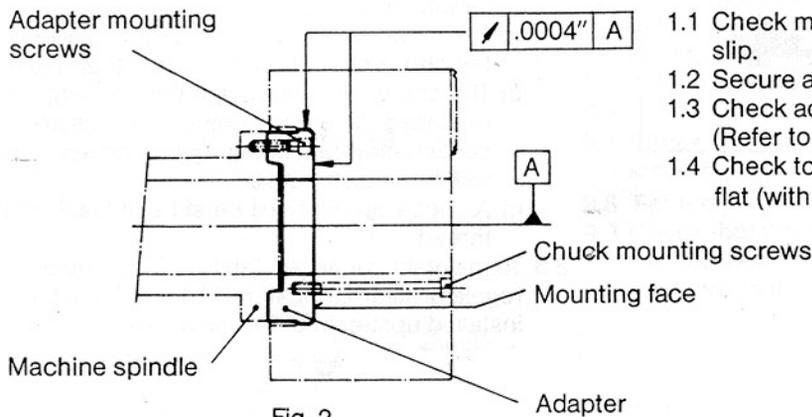

Fig. 2
**1. Mounting the chuck on the machine spindle (Fig. 2)**
- 1.3 Check adapter for radial run-out and axial slip (Refer to Fig.2 for permissible deviation).